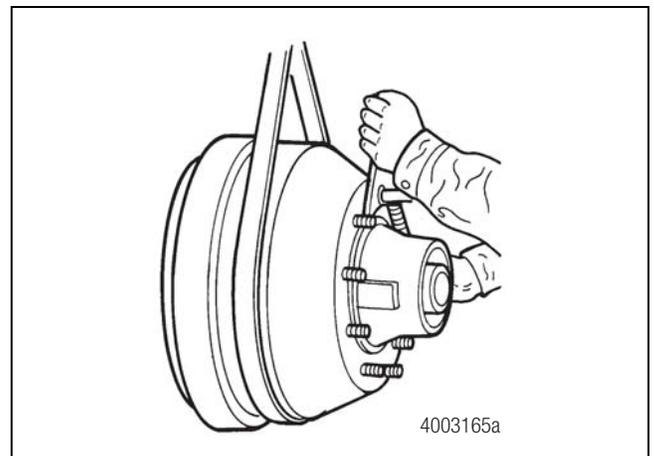

Figure 3.8
- Remove the outer bearing cone, then the hub and drum assembly from the axle spindle. Support the hub and drum assembly during the entire removal process, as failure to do so may result in damage to the axle spindle threads. Figure 3.8.